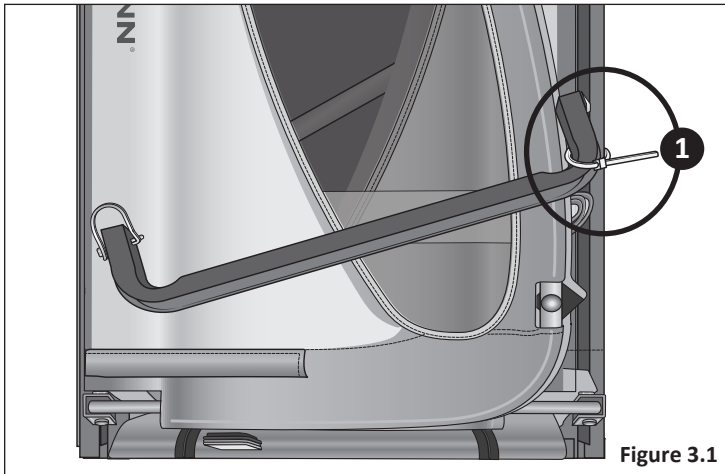

Figure 3.1
- 1 Cut the ziptie holding the axle to the frame. Keep the axle close-by as you will need it for the frame assembly. **Figure 3.1**